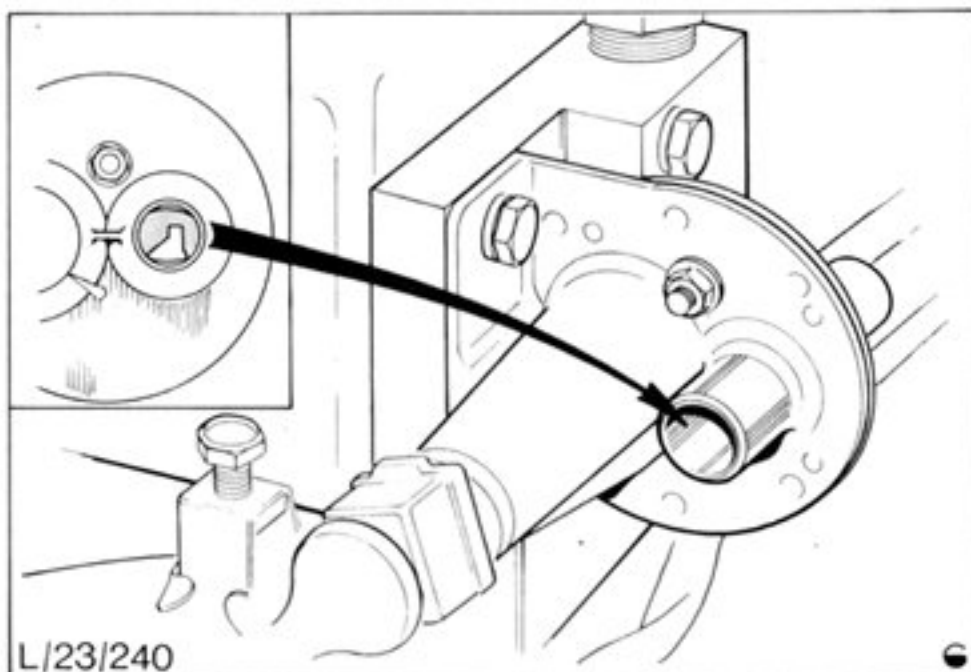

Fig.61. Auxiliary air device check. (Engine cold and device open)
- (ii) Using a mirror and lamp look through air device. On a cold engine device will be open as shown in Fig.61.